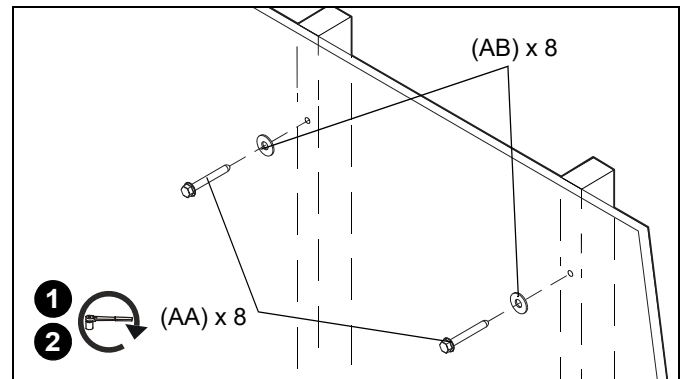

Figure 16
15. Hang outer cover/carrier frame over scissors assembly on rear frame, ensuring that studs on carrier frame line up with holes on scissors assembly. (See Figure 16)
16. Fasten thumb nuts (CD) over studs to connect. (See Figure 16)
1. Use one 5/16" x 2-1/2" hex flange head lag bolt (AA) and one 5/16" washer (AB) through product and into pilot hole. (See Figure 16)